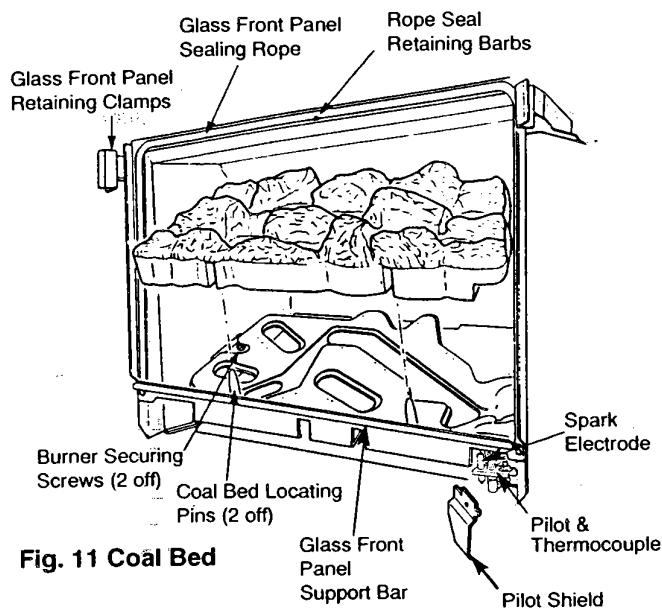

Fig. 11 Coal Bed
6. Remove the glass front panel as follows: (Fig.11).
7. Remove the coal bed by carefully lifting it away from the locating pins (Fig.11).
2. GLASS FRONT PANEL (Fig.11)
3. SEALING ROPE (Glass Front Panel) (Fig.11)
4. COAL BED (Fig.11)